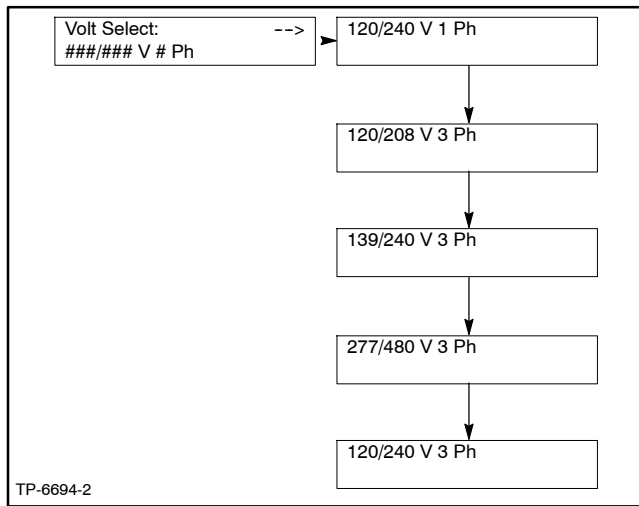

Figure 5-1 Volt Select Menu
2. Turn the controller pushbutton/rotary selector dial until it stops at the Volt Select menu. See Figure 5-1.